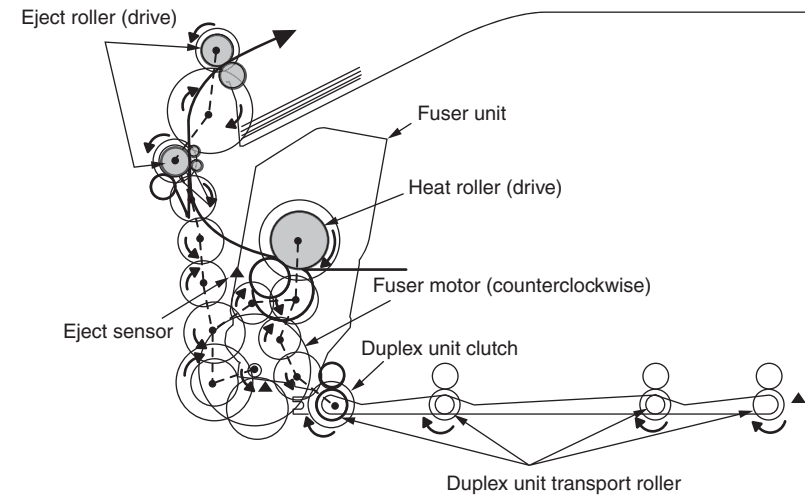
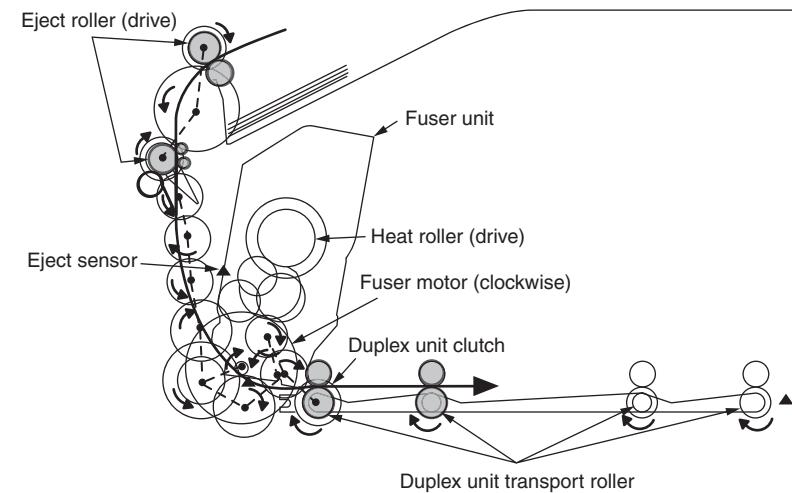

Figure 2-7
Figure 2-8
1. In a certain period of time after the fuser motor starts running counterclockwise and the rear end of paper being fed passes the eject sensor, the fuser motor starts running clockwise. (It changes from the state shown in Figure 2-7 to the state shown in Figure 2-8.)
4. In a certain period of time after the rear end of the paper passes the eject rollers, the fuser motor starts running counterclockwise, and as a result of this, the eject rollers can carry the next paper to the exit. (It changes from the state shown in Figure 2-8 to the state shown in Figure 2-7.) (The duplex unit transport rollers rotate in the same direction regardless of the running direction of the motor.)